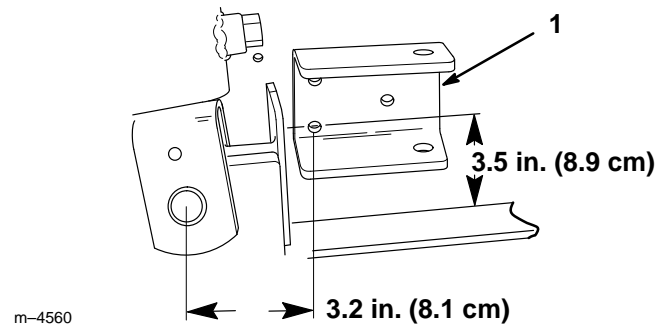

Figure 3
3. Line up the side bar bracket as illustrated in Figure 3 and mark the centers of the three holes.